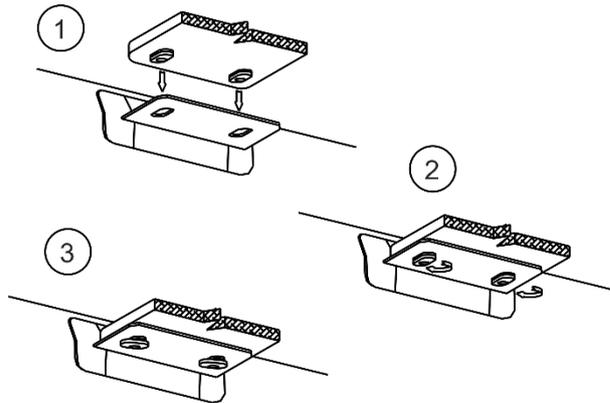

Fig. 17. Installation of wooden seats.
- Turn the stops caps to 90° till they click as shown in the figure 17.